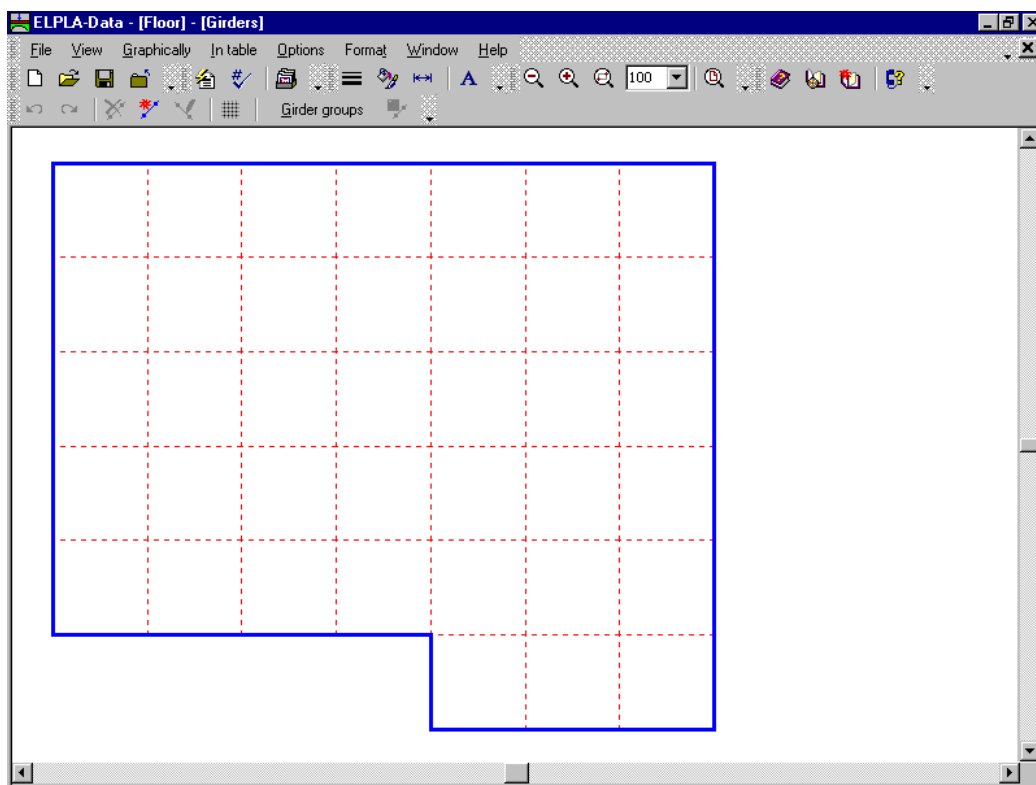
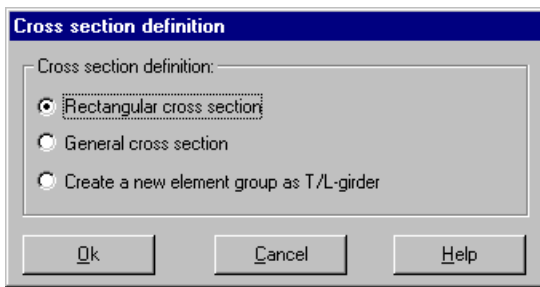

Figure 2-14 "Girders" embedded program
Figure 2-15 "Cross section definition" option box
To define the girders choose "Girders" command from "Data" menu of *ELPLA-Data*. The following embedded program in Figure 2-14 appears.
- Choose "Girder groups" command from "In Table" menu in Figure 2-14. The following option box in Figure 2-15 appears
- Choose "Add girders" command from the "Graphically" menu in Figure 2-14. When "Add girders" command is chosen, the cursor will change from an arrow to a cross hair